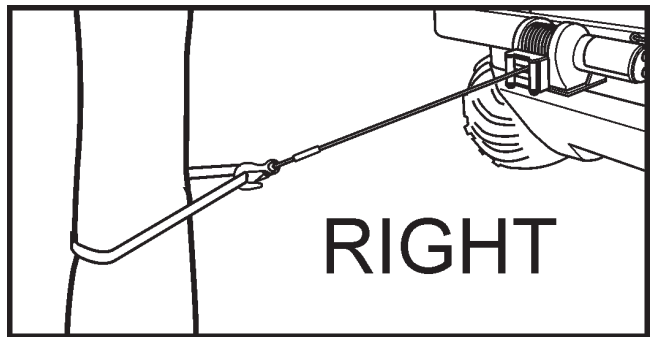
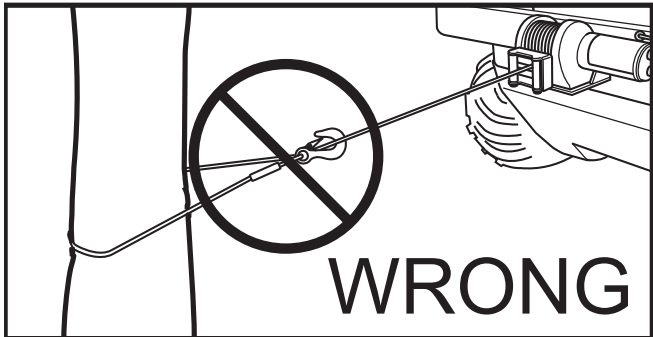

Figure 11-15. Correct hook-up.
Figure 11-16. Incorrect hook-up.
8. NEVER HOOK THE WIRE ROPE BACK ONTO ITSELF. Use a nylon sling. (Figure 11-15). Hooking the wire rope onto itself can damage the rope (Figure 11-16).